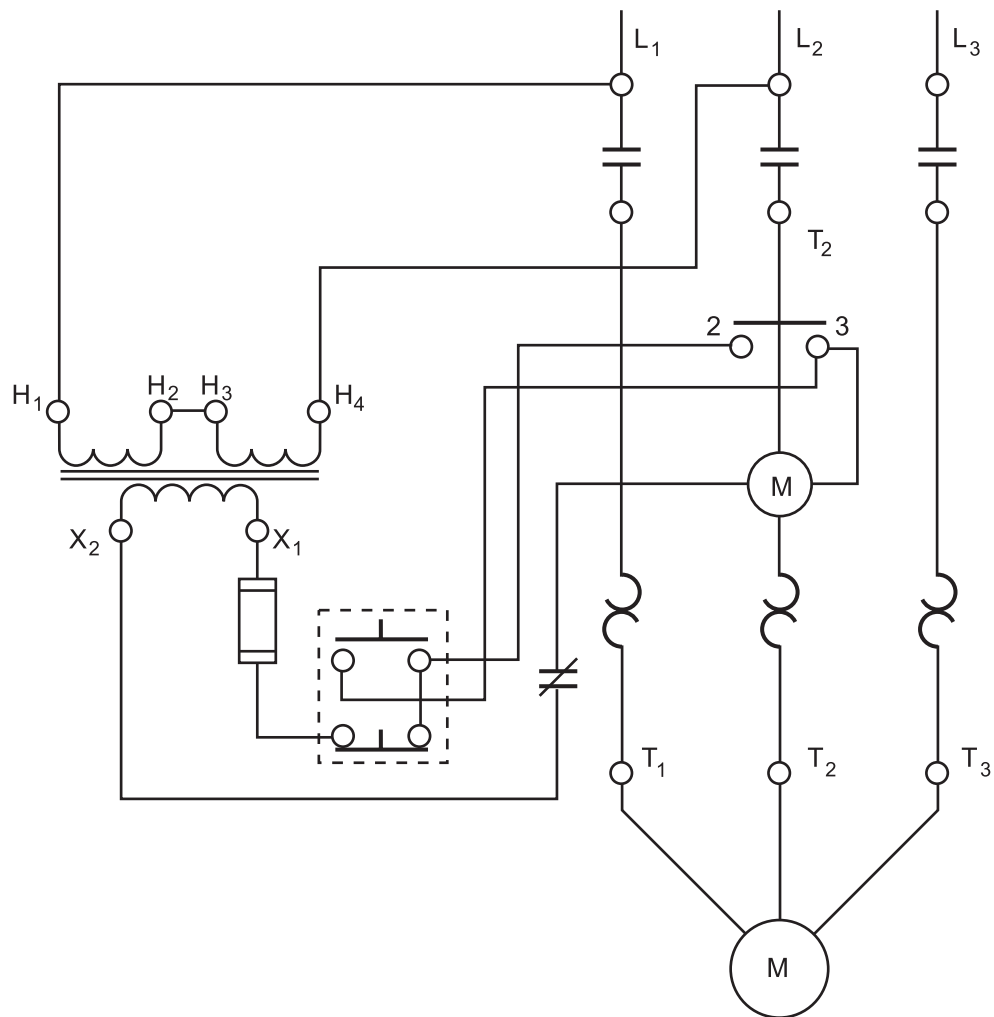

Figure 1—Wiring diagram for Question 6
6. Develop a schematic diagram for the control circuit in the wiring diagram in Figure 1.